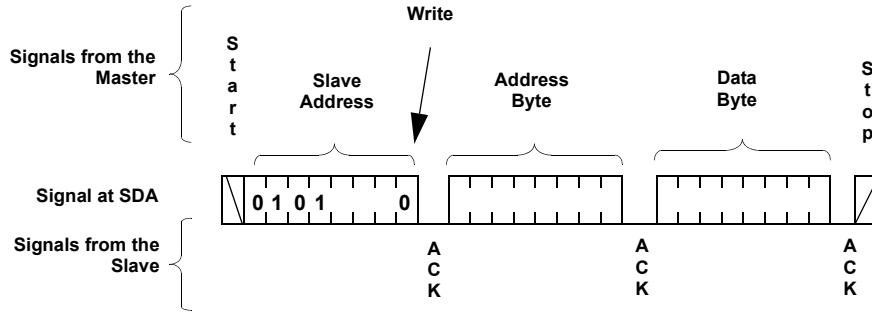
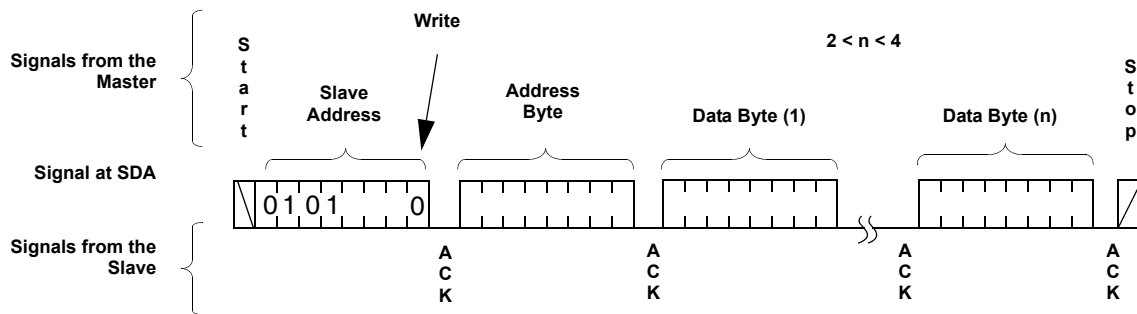

FIGURE 7. BYTE WRITE SEQUENCE
FIGURE 9. PAGE WRITE OPERATION
2. **Access the desired DR or WCR using a new write or read command** (see Figure 7 for write and Figure 9 for read.)
For any Byte Write operation, the X9455 requires the Slave Address byte, an Address Byte, and a Data Byte (See Figure 7). After each of them, the X9455 responds with an ACK. The master then terminates the transfer by generating a STOP condition. At this time, if the write operation is to a volatile register (WCR, or SR), the X9455 is ready for the next read or write operation. If the write operation is to a nonvolatile register (DR), and the  $\overline{WP}$  pin is high, the X9455 begins the internal write cycle to the nonvolatile memory. During the internal nonvolatile write cycle, the X9455 does not respond to any requests from the master. The SDA output is at high impedance.
As stated previously, the memory is organized as a single Status Register (SR), and four pages of four registers each. Each page contains one Data Register for each wiper. Normally a page write operation will be used to efficiently update all four Data Registers and WCR in a single Write command. Note the special sequence for writing to a page: First wiper 0A, then 1B, then 1A, then 0B as shown in Figure 9.
up to 4 bytes (See Figure 9). After the receipt of each byte, the X9455 responds with an ACK, and the internal WCR address is incremented by one. The page address remains constant. When the address reaches the end of the page, it “rolls over” and goes back to the first byte of the same page.